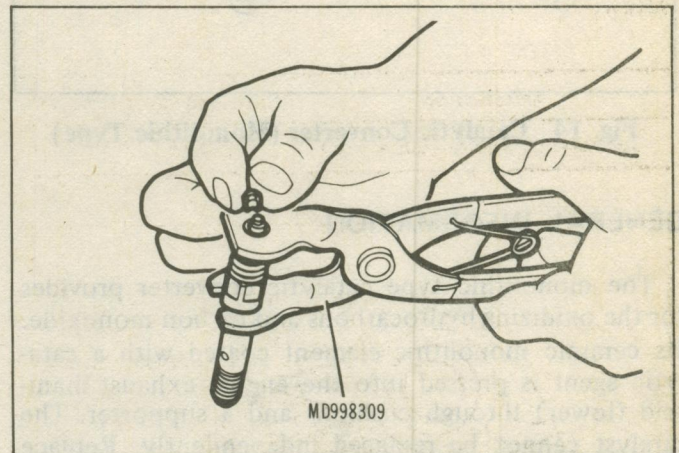

Fig. 13 Assembling the Jet Valve
(2) Apply engine oil to the jet valve stem before inserting the jet valve in the jet body. When the valve is inserted, use care to prevent damage to the new valve stem seal lips. After insertion, check to ensure that the valve slides smoothly.
(3) Mount the jet valve spring and jet valve spring retainer. While compressing the spring with the jet valve spring pliers (special tool MD998309), install the retainer lock. When the spring is compressed with the pliers, be careful not to damage to the valve stem by the bottom of the spring retainer. (Fig. 13)